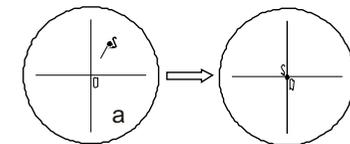

Fig.14
(1) Loosen the fastening screws 1 of the photography output terminal, and remove the dust-proof cap 2.
(2) Mount the photography device on the output terminal, then tighten the fastening screws again.
(3) Turn the 10X objective into the light path.
(4) Push the push-pull rod 4 in and focus to make micro-image clear.
(5) Push the push-pull rod 4 out to see whether the image with photography clear. If unclear, adjust the fine focusing control knob to make the image clear.
(6) If there is strict synchronization requirement for eyepieces and photographic images (consistency between the center and direction of the image), a synchronization adjustment will be necessary as follows:
a. Push in push-pull rod 4, observe with eyepieces. Find a feature point in the field of view (a readily identifiable target, such as S point in Fig. 14-a), move it to the center of the field of view. If there is a division eyepiece, move the target to the reticle intersection of the division eyepiece, as shown in Fig. 14-b.